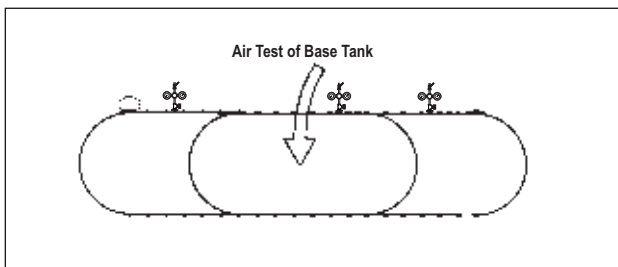

FIGURE 4-6
4.6.3. Pressurize the base tank. (See SECTION 3.4. and FIGURE 4-6.)
4.7.4. Pressurize the base tank. (See SECTION 3.4. and FIGURE 4-6.)